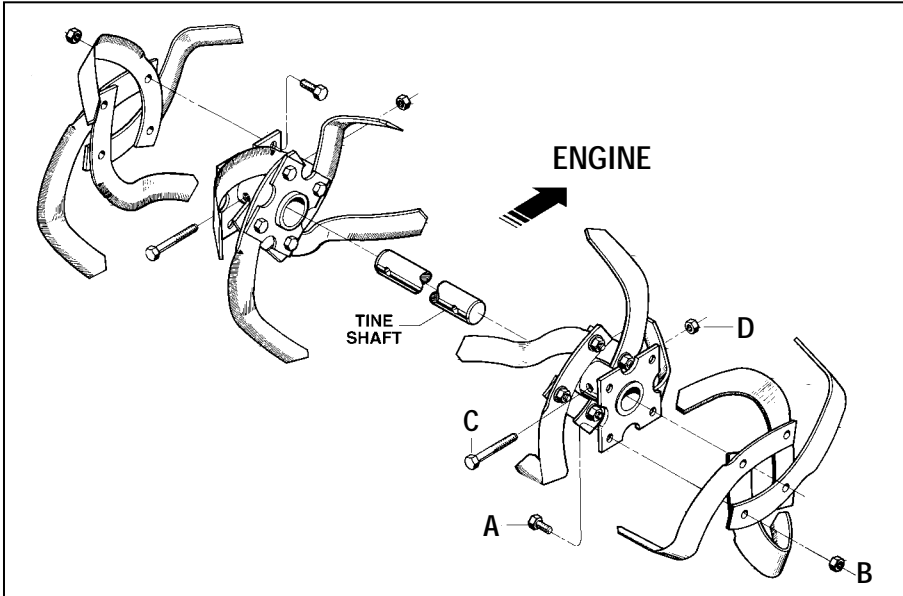

Figure 5-3: Install tines so that cutting edge of tines will enter soil first when tiller moves forward.
1. With the engine shut off and the spark plug wire disconnected, remove the two screws (A, Figure 5-3) and locknuts (B) that attach a single tine to the tine holder. If needed, use penetrating oil to help free the nuts.
2. If removing both tine assemblies, mark them "left" and "right" before removal. Remove the screw (C, Figure 5-3) and locknut (D) that secure the tine assembly to the tine shaft. If necessary, use a rubber mallet to tap the tine assembly outward off the shaft.